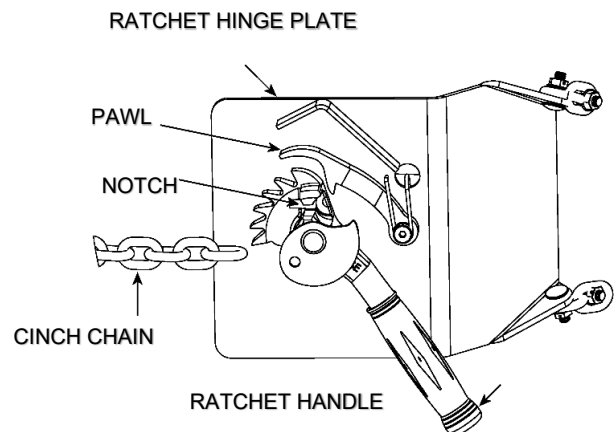

Figure 3.2
2. Using the "LIFT" control as described in "Machine Description - Controls" position the drum holder assembly with the back band at the middle of the drum. (Figure 3.2). With the ratchet plate swung open and the cinch chain hanging from the chain hook, push the unit until the back band rests firmly against the drum. Some adjustment to the tilt angle of the saddle may be necessary to ensure band fits flush on the drum.
3. Attaching the drum: Drape the chain across the front of the drum and engage a link into the notch in the ratchet (Figure 3.2). Turn the ratchet clockwise to tighten the chain. If the ratchet turns until the pawl is beyond the last ratchet tooth, turn the ratchet back and slide the next link into the ratchet notch and try tightening